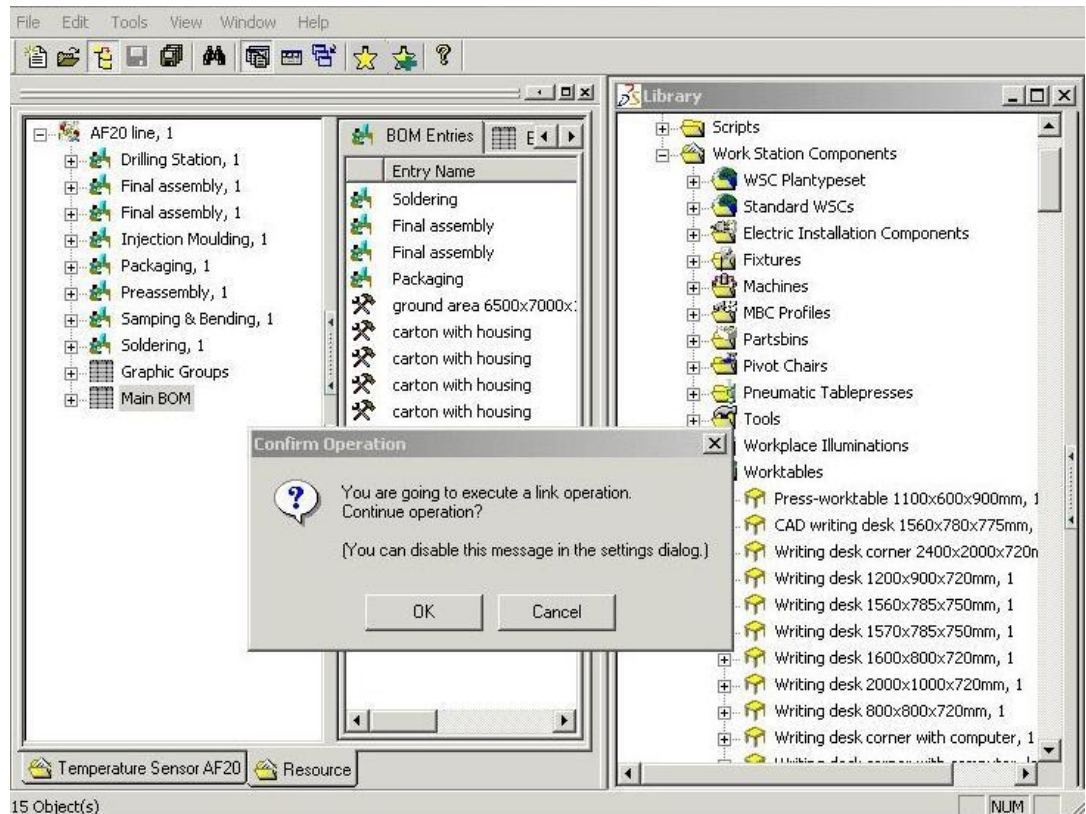

Figure 40: Inserting System Item – Confirming Message
- 2) Click **Yes** in the message window to confirm this link. *Please refer to the Figure 40.*